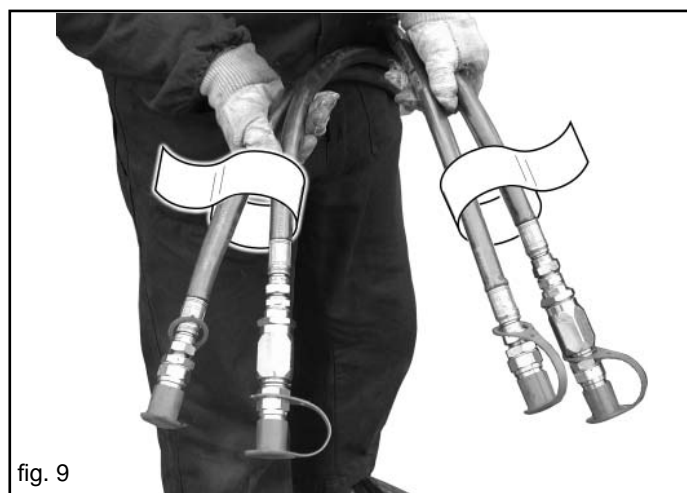

fig. 9
- 5) The hydraulic pipes must be connected correctly to the tractor distributors following the instructions on each pipe (Fig. 9).